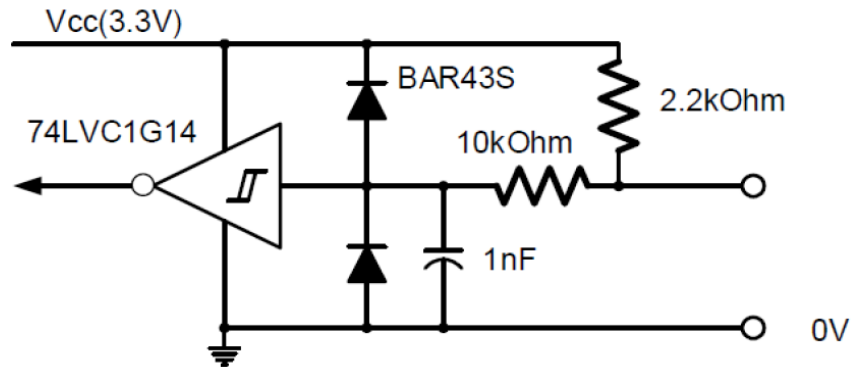

Figure 3. Control lines electrical interface.
Control lines, i.e.: Home, Limit+, Limit- and Disable share the same electrical interface shown in Figure 3.
- Activation is defined by their interaction with the input circuitry described in Figure 3.
Typically a dry normally-closed contact is satisfactory (as long as the pull-up to 3.3V in Figure 3 can yield an active signal when open). If a sensor based on different technology it should be stated clearly in the documentation. Optical or Hall sensor based switches should be avoided.